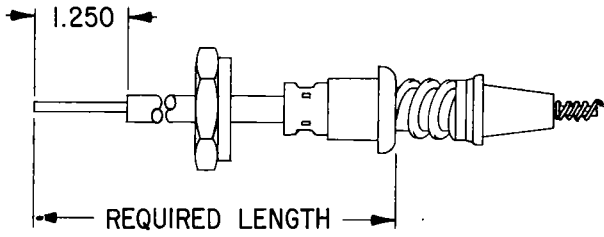
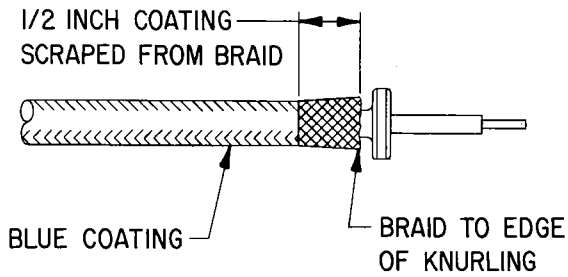

Figure 4-3. Measuring Lead Assembly Lengths
Figure 4-4. Ferrule Installed Under Shielding
a. Measure the length of the condemned lead assembly. Move coupling nut back on lead assembly and measure from outer end of the ferrule at the spark plug end. See figure 4-3. Add 1-3/4 inches to this measurement.
c. Remove 1.250 inch of outer braid from end of lead. See figure 4-3. Use care not to nick or cut insulation when removing braid. Use Bendix tool no. 11-7803 to unbraid 3/8 inch of braided shielding. See figure 4-4. Wrap a single thickness of electrical tape around unbraided strands to facilitate insertion of lead end through hole in cable outlet plate.
e. Pass the taped end of the new lead through hole in outlet plate. Remove electrical tape from lead and install tapered end of ferrule under the unbraided strands of shielding (figure 4-4). Form strands of shielding evenly around tapered ferrule and pull lead back through cable outlet plate until the ferrule binds in the outlet well. Position the Bendix Tool No. 11-7074, seating tool over the wire and firmly seat the ferrule by tapping the seating tool with a hammer, or by using an arbor press.